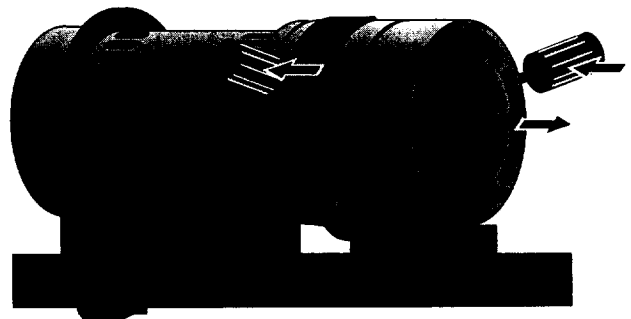

Figure 22
10. Carefully tap a small screwdriver or thin bladed chisel in between the intermediate volute and the pump adapter in two or three places around the pump to separate the castings (Figure 22). *Do not mar the sealing surfaces; do not break pieces out of the adapter or volute - the castings are easily damaged.*